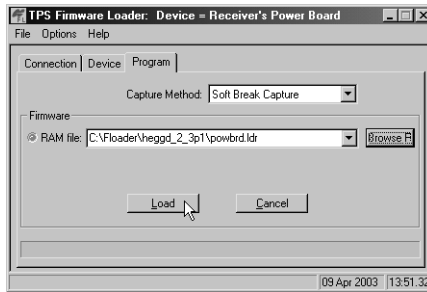

Figure 4-22. Program Tab Settings
8. Select the **Program** tab and set the Capture Method to Soft Break Capture (recommended) (Figure 4-22).
9. Browse for and select the Power board's RAM file (Figure 4-22).